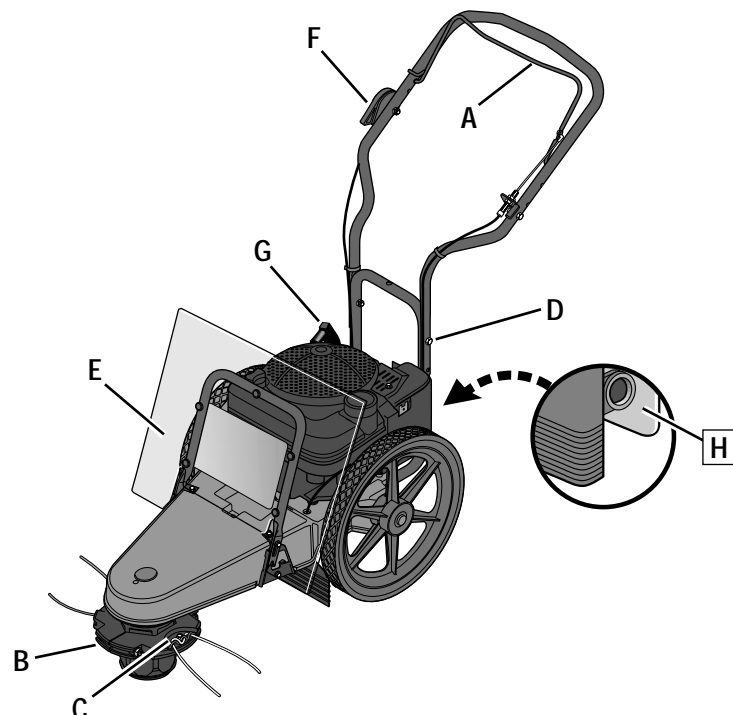

Figure 3-1: Features and controls
Pull the control bail (A, Figure 3-1) up against the handlebar (engage bail) to start rotation of the trimmer head. Let go of the control bail (disengage bail) to stop the trimmer head.
The trimmer head (B, Figure 3-1) is adjustable to an infinite number of height settings from 1-1/2"-to-4-1/2".
The two trimming lines are secured to line holders (C, Figure 3-1). Replacing the trimmer lines is easy (refer to "Changing Trimmer Lines" in Section 5).
The handlebar (D, Figure 3-1) has two height settings (see "Adjust Handlebar Height" in Section 4).
A heavy-duty plastic shield (E, Figures 3-1 and 3-1A) protects the engine from all manner of debris. The shield tilts forward for access to the engine.
Use this lever (F, Figure 3-1) to regulate engine speed and to stop the engine. The throttle settings are shown on the decal next to the lever.
The recoil starter is located at the rear of the engine (G, Figure 3-1) and is used to pull start the engine.
The fuel primer button (H, Figure 3-1) allows a cold engine to be primed for faster, easier starting.
1. Lift and tilt plastic debris shield (E, Figure 3-1) forward.